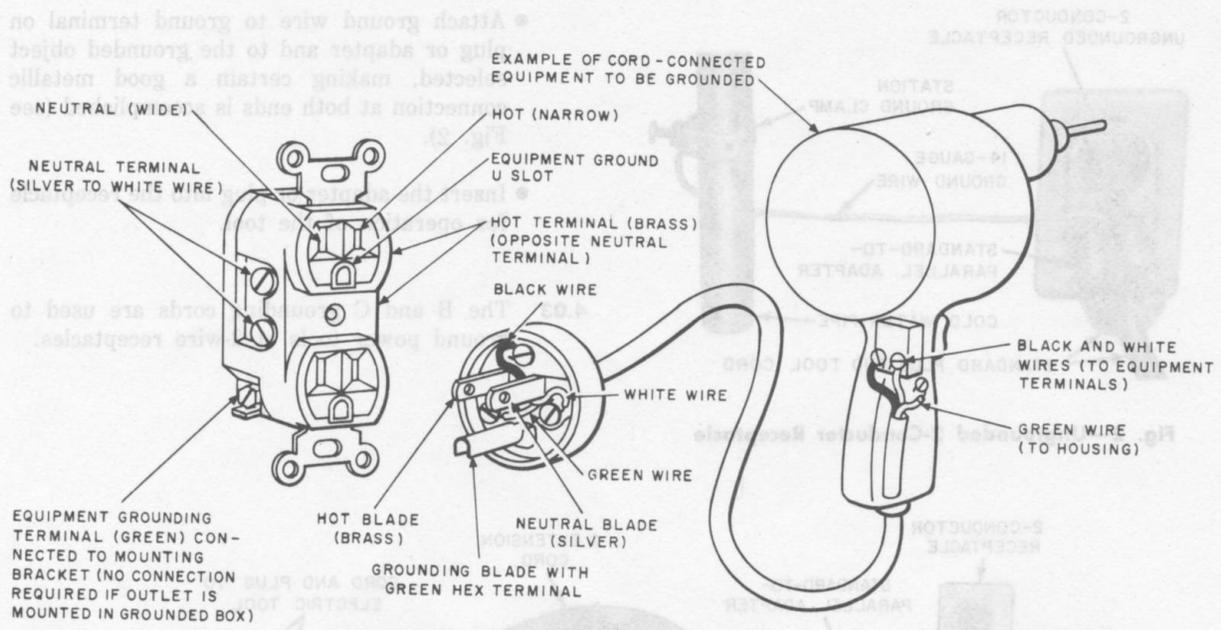

Fig. 4—Wiring of 125-Volt Standard Plug and Receptacle
4.01 The most satisfactory method of providing an effective ground is through the connection of a 3-blade plug to a comparable 3-wire receptacle. (See Fig. 4.)